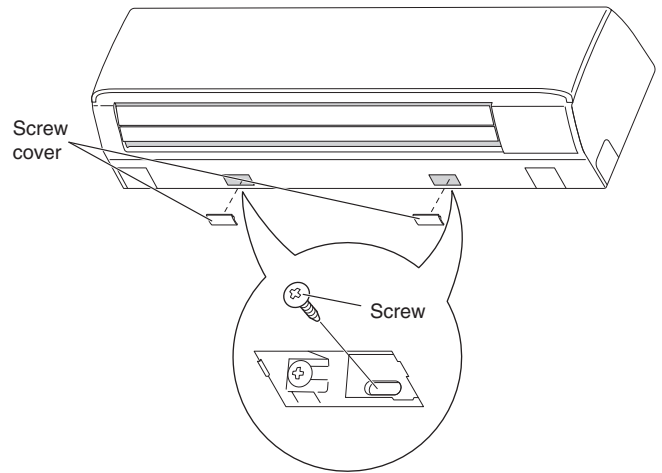

Fig. 3-104
- (1) Remove the screw cover on the bottom surface. (Fig. 3-104)
- (2) Fasten the frame to the rear panel using the 2 supplied tapping screws 4 x 10 mm. (Fig. 3-104)